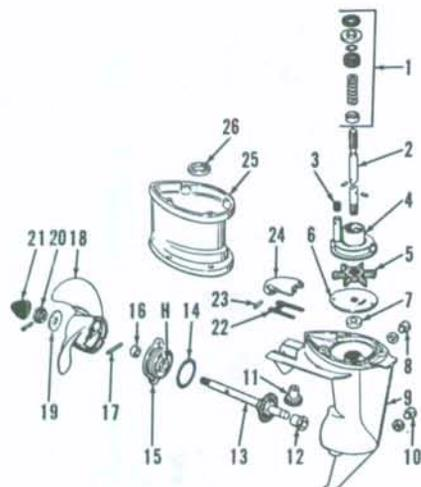
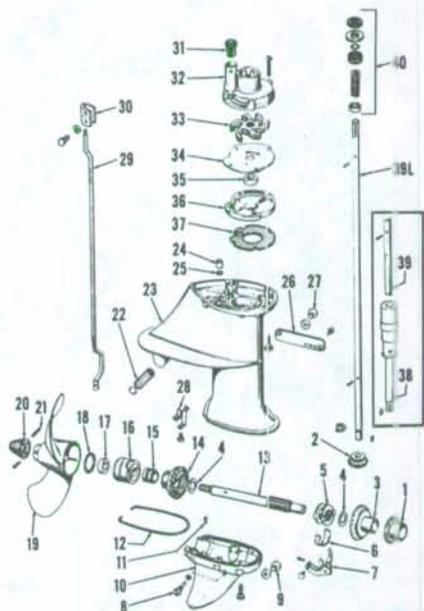

Fig. OM4-16—Exploded view of lower unit gearcase, water pump and associated parts used on 5 hp models.
Fig. OM4-17—Exploded view of lower unit gearcase, water pump and associated parts used on 6 hp models.
When cooling system problems are encountered, first check water inlet for plugging or partial stoppage. Check the thermostat on models so equipped. If the difficulty is not thus corrected, remove the lower unit gearcase as outlined in the appropriate section and check the condition of water pump, water passages, gaskets and sealing surfaces. Refer to Fig. OM4-16 or OM4-17. The main water inlet is located in the lower unit gearcase housing below the anti-cavitation plate; at sides of housing and ahead of propeller on 5 hp models, and below the exhaust outlet above and behind the propeller on 6 hp units.
The propeller drive pin (17—Fig. OM4-16) used on 5 hp models is ½ x 1¼ inch stainless steel. The drive pin (21—Fig. OM4-17 or OM4-18) used on 6 hp models is ¾ x ¾ inch stainless steel.
5 hp Models. Refer to Fig. OM4-16 for exploded view of gearcase and associated parts and to Fig. OM4-18 for exhaust housing and support assembly. Motor is equipped with full pivot steering and no neutral is provided for propeller shaft.
To remove the gearcase for service on the water pump or drive shaft, remove the four cap screws retaining gearcase housing (9—Fig. OM4-16) to exhaust housing and withdraw gearcase and drive shaft as an assembly. Water tube (8—Fig. OM4-18) will remain with exhaust housing. Withdraw crankcase lower seal components (1—Fig. OM4-16) from upper end of drive shaft to prevent loss. To renew the drive shaft, it is first necessary to unbolt water pump housing (4) from gearcase, then remove either of the two roll pins in driveshaft before pump housing can be withdrawn. Propeller shaft and gearcase head can be withdrawn from gearcase after removing retaining cap screw. Drive pinion (11) is free to fall from its bore after propeller shaft and gear is withdrawn. Front propeller shaft thrust bushing (12) is also free and may be withdrawn with shaft. The exhaust cover (24) is retained by rivet (23) and sealed by gasket (22) which is available in thicknesses of 1/32 and 3/64 inch for service installation. Exhaust cover need not be removed unless loose or damaged, or service is indicated. To remove the cover, file off peened portion and remove the rivet, then lift off the cover. When installing, use the thinnest gasket which will compress slightly when rivet holes are aligned. Coat both sides of the selected gasket with a non-hardening gasket cement andpeen rivet slightly after installation. NOTE: Only one gasket should be installed.
6 hp Models. Refer to Fig. OM4-17 for an exploded view of gearcase and associated parts and to Fig. OM4-19 for an exploded view of exhaust housing and support assembly. Six horsepower models are equipped with a full gear shift.
The propeller shaft (13—Fig. OM4-17) and drive gears (3 & 14) can be removed after first draining lubricant from gear housing, removing pivot screw (8), then unbolting and removing gearcase lower housing (10).